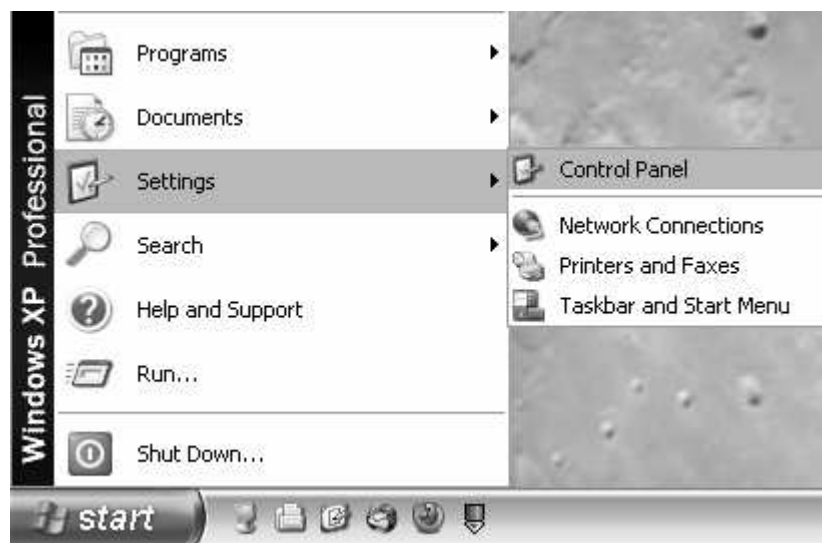

Figure 6. Network Connections
1. Open Network Connections as shown in *Figure 6*: